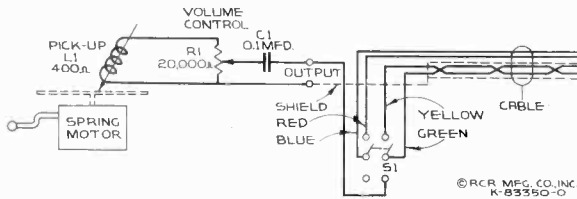

Figure 6—Schematic Circuit Diagram
1. (Applies to Model R-93-S only). It is necessary to short the 0.1 mfd. blocking capacitor C1 in Model R-93-S (see figure 6) for cases in which the control grid d-c bias, or cathode current flow, would be removed or prevented by this capacitor when the record player switch is thrown to "Phono" position. C1 is provided to permit operation on battery receivers without shorting bias batteries, etc. Cases in which it is necessary to short C1 are indicated in "RCA Victor Receivers—Details of Lead Connections" of this booklet.
same. Reference to the Schematic diagram figure 6 will show a capacitor C1 in series with one of the leads to the binding posts. The purpose of C1 is to permit operation on battery receivers without shorting bias batteries, etc. Observe Note 1 under "Introduction" when making connections to radio receivers.